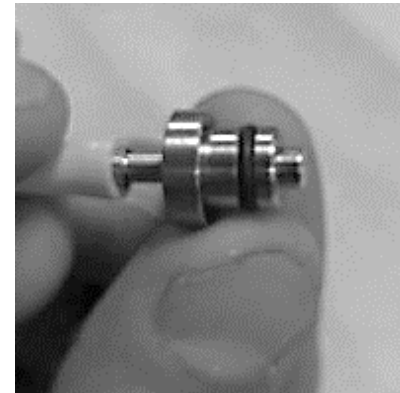

Fig. 7
- 8 Attach new connector valve to the tubing by sliding tubing over barb. (Fig. 7)